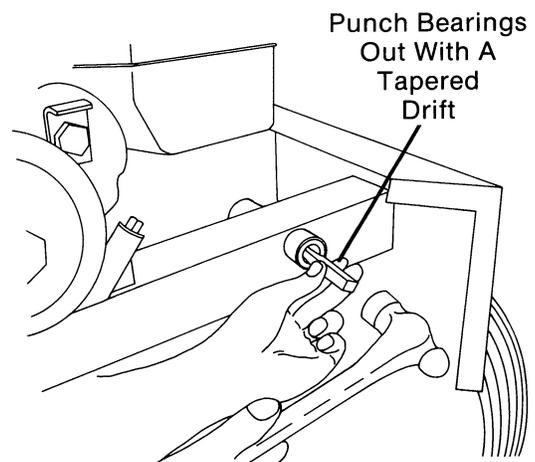

FIG. 23
- H. If bearings need replacement drive bearings from inside out with a tapered drift. (Fig. 23)